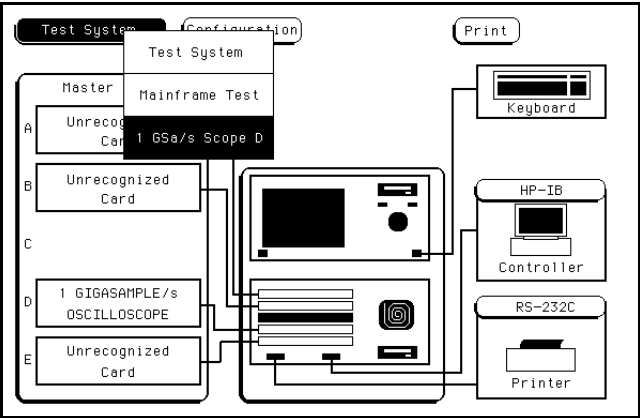

Figure 6-4. Test System Screen
- 5. From the test system screen in figure 6-4, touch **Test System**, then touch **1 GSa/s SCOPE D**. (For the example shown in figure 6-4, the oscilloscope module is in slot D. If multiple oscilloscope modules are present, select the one to be tested.)